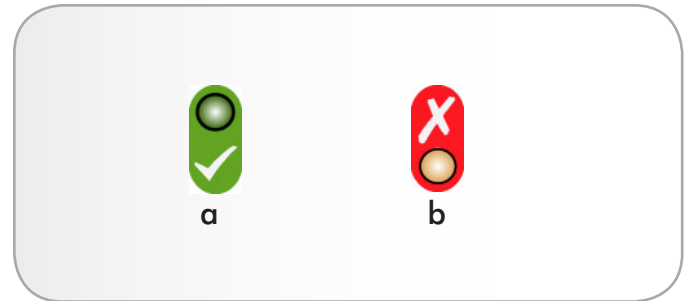

Fig. 67 - Controller Status LED
Controller OK LED (Fig. 67)
- ◆ If the “Fault LED” is also illuminated (Fig. 67), there are a few steps you may take to attempt to diagnose that problem: